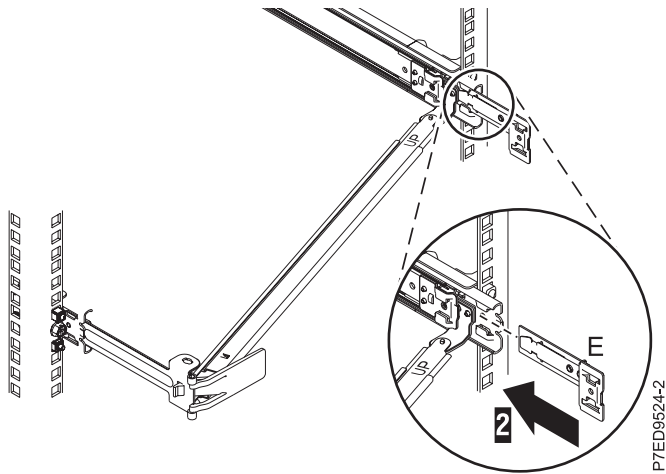

Figure 15. Installing the extension bracket into the slide rail
4. Slide the extension bracket (E) into the right slide rail (1). Push the bracket into the slide rail until the spring-loaded latch snaps into place, as shown in Figure 15 on page 12.